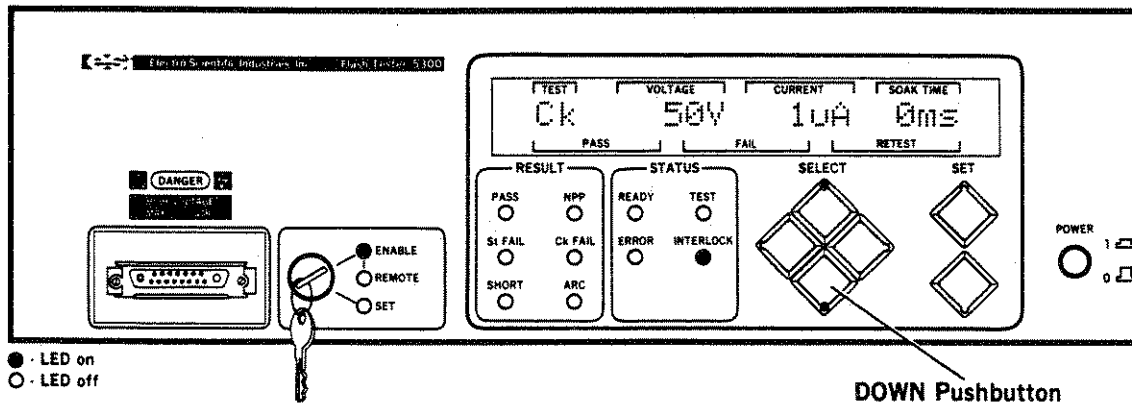

Figure 7-7. Front Panel After Pressing DOWN
STEP 6. Press the DOWN pushbutton once. The LED on this pushbutton should be illuminated. The characters at the left end of the display should change from St to Ck and the other entries in the display may also change, as indicated in Figure 7-7.